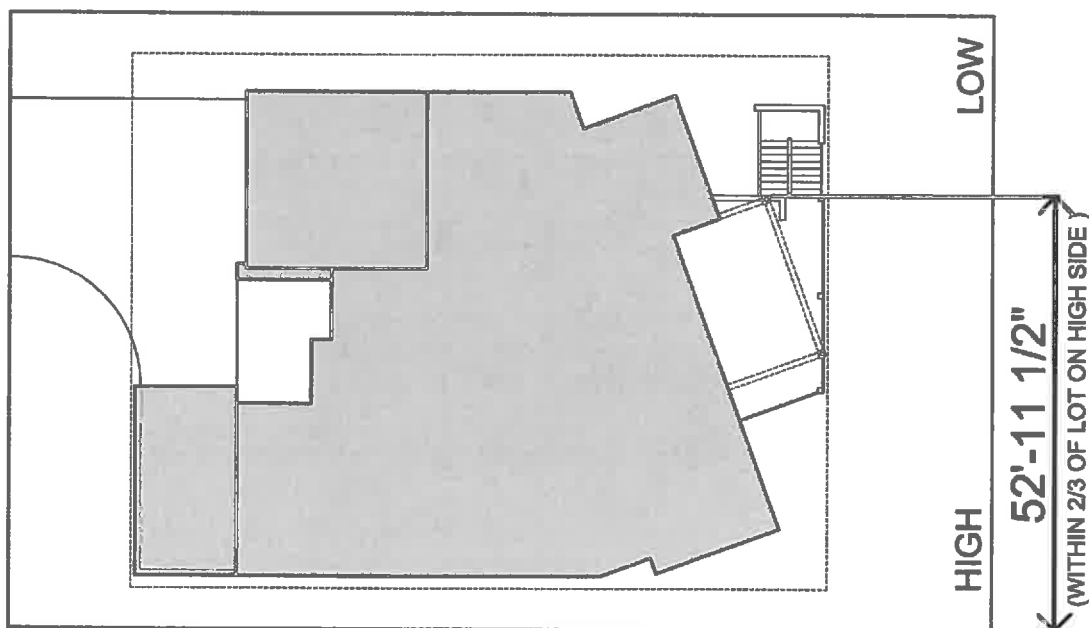

Figure 8. Rear Deck/Patio Location
- Not locate rear main level and rear walk-out level patios on the downhill side of the lots. See Figure 8.